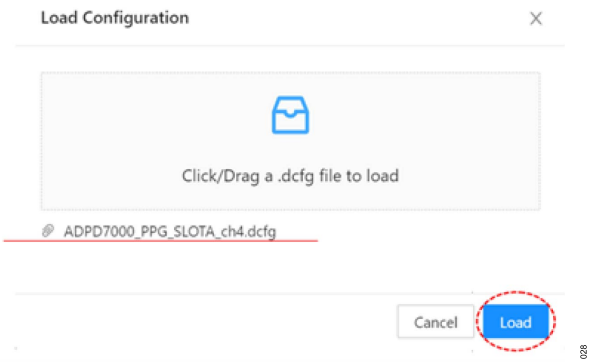

Figure 28. Load Configuration
3. Click **Load** (see Figure 28) to load the configuration file.